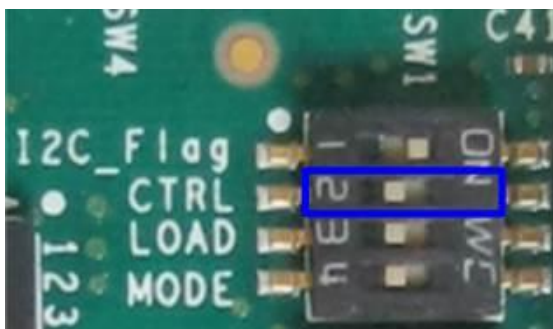

Figure 2-7 Source power to the PCIe for Arria10 SoC board
- set SW1[2] = OFF position to source power to the PCIe, as shown in Figure 2-7.